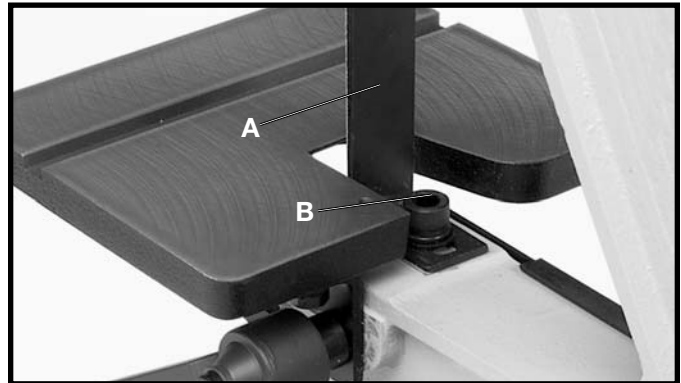

Fig. 24
The platen (A) Fig. 24, is constructed of heavy steel to properly support the work when sanding. The platen should be adjusted so it is almost touching the back of the sanding belt. To adjust the platen, loosen screw (B), adjust the platen to the desired position and tighten screw (B).
To remove the platen for operations such as strapping, contour sanding, polishing, or other special operations, remove screw (B) Fig. 24, and remove platen (A).